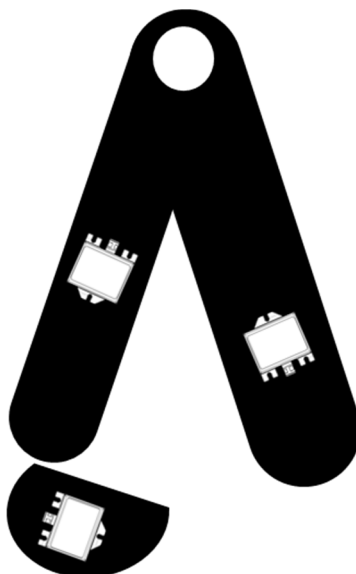

Figure 5-7 Basic attitude①
- Basic attitude that attitude angle of sensor becomes arbitrary angle①(static state in Figure 5-7)